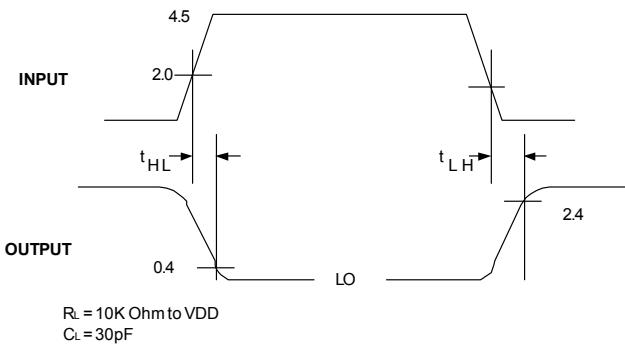

Figure 9 Input to Output Delay
4. See Figure 9. The delay is due to both the on chip filter circuits and VDD.